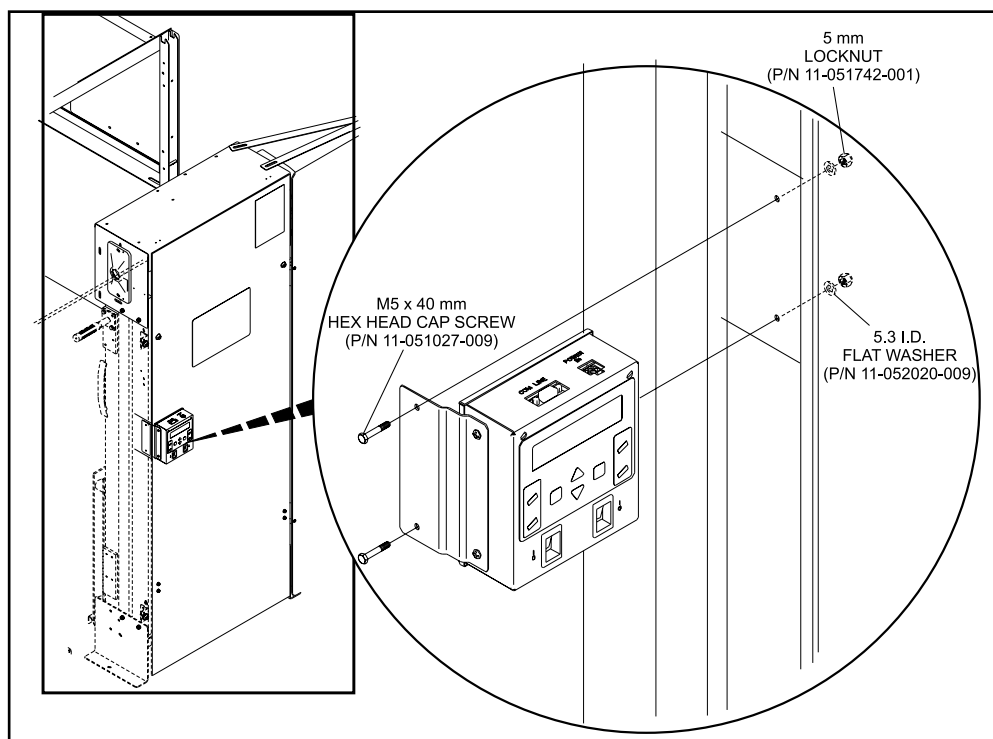

Figure 7
2. Secure Remote Display to the elevator with two M5 x 40 mm hex head cap screws (P/N 11-051027-009), two 5.3 mm I.D. flat washers (P/N 11-052020-009) and two 5 mm locknuts (P/N 11-051742-001). Refer to *Figure 7.*